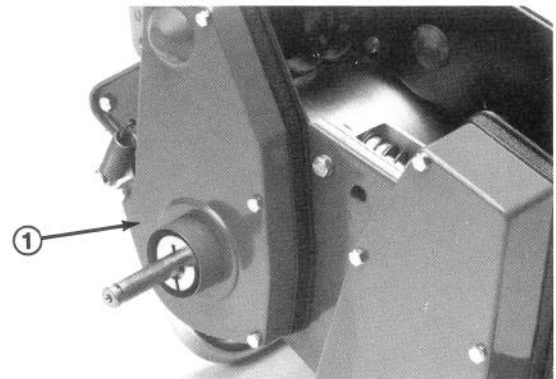

Figure 4
2. Remove capscrews securing rear belt covers to machine and remove covers (Fig. 4).